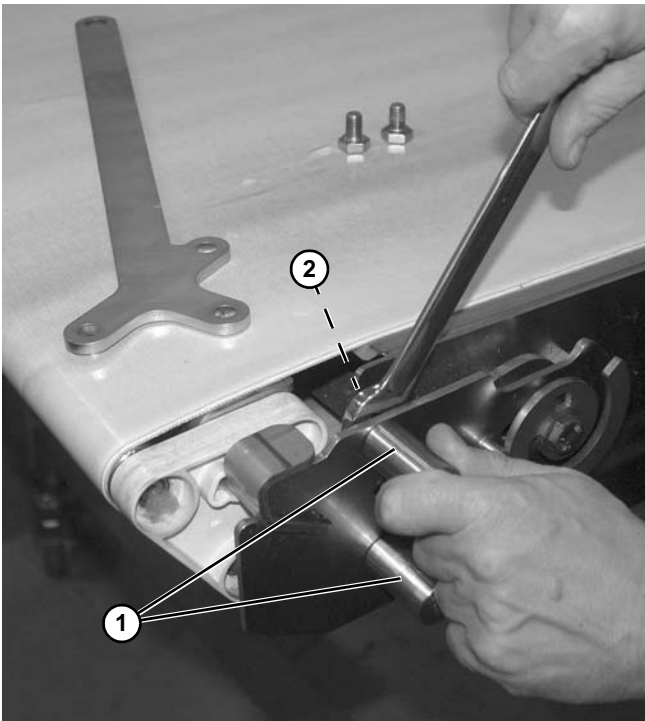

Figure 56
2. Install two spacers (**Figure 56, item 1**) onto screws (**Figure 56, item 2**). Tighten screws onto spacers.